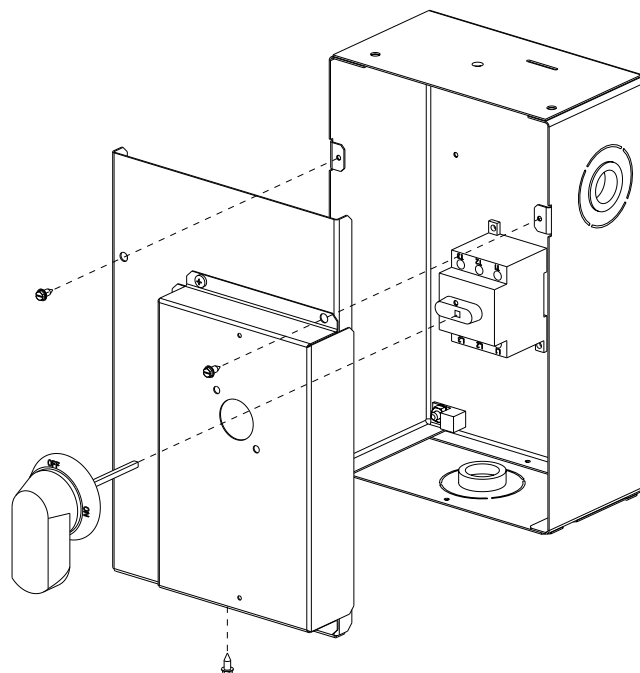

Fig. 33 — Handle and Shaft Assembly for NFD
2. Remove (3) hex screws on the NFD enclosure - (2) on the face of the cover and (1) on the bottom (see Fig. 33).
9. Secure the handle to the painted cover with (2) screws and lock washers supplied.
10. Engaging the shaft into the handle socket, reinstall (3) hex screws on the NFD enclosure.